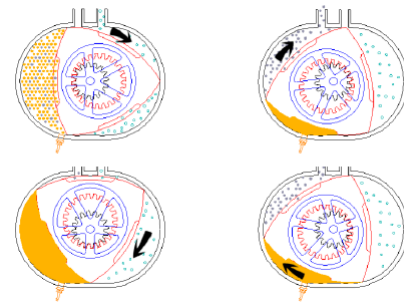

Figure 1.4
- Figure 1.4 - The third famous mechanism is known as rotary or Wankel engine. It is based on an eccentric rotary motion. The triangular rotor forms 3 combustion chambers that undergo the 4 strokes of a classical engine. So, for one rotation we have 3 power strokes. It is compact and can be operated at higher speed giving a very high power to weight ratio, is smooth and balanced. The challenges rely in the sealing of the combustion chamber, the higher heat transfer, the efficiency, and the emissions.